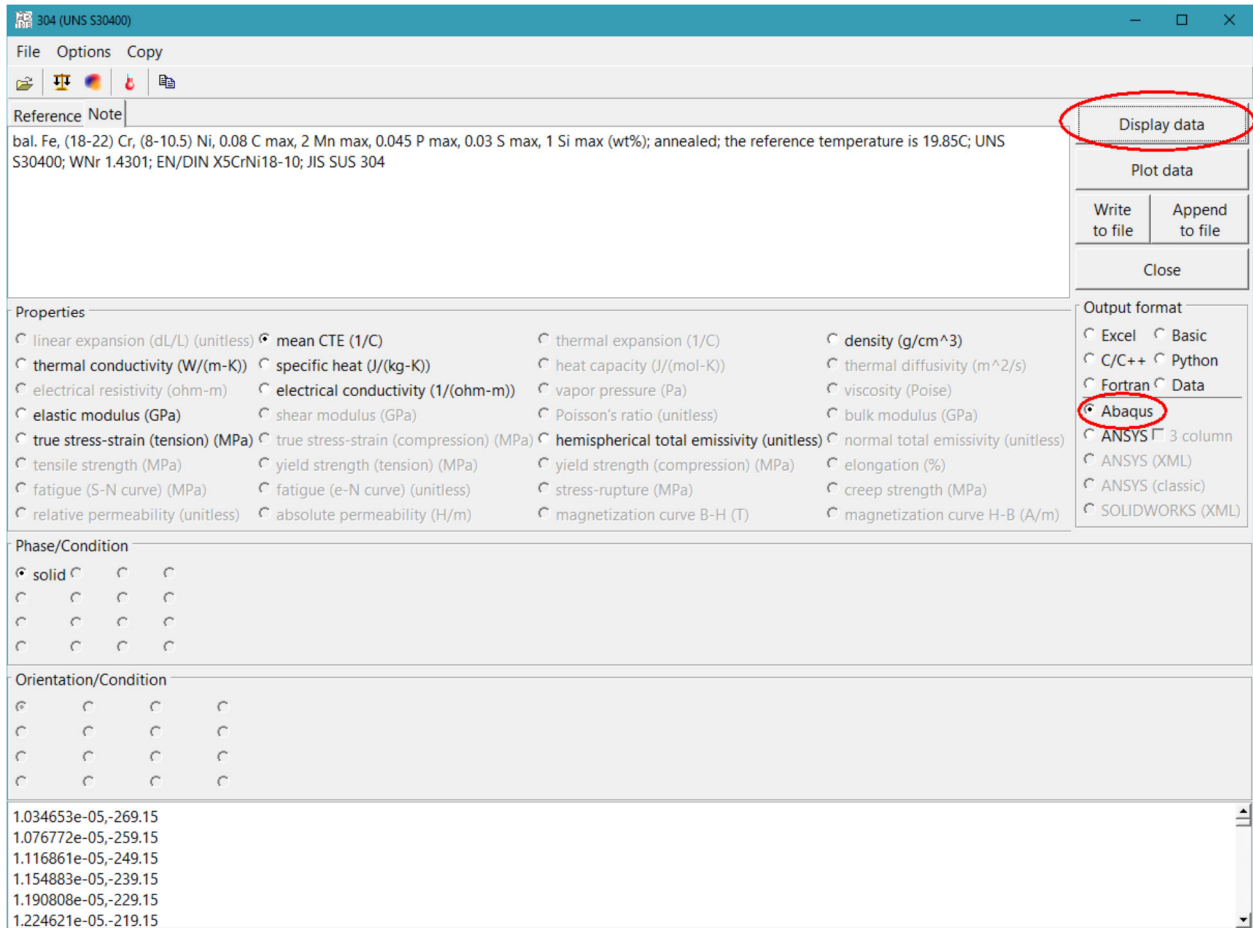

Figure 1.
- c) Select the material you want to add to the database in the normal way. Check “ABAQUS” for the output format and click the “Display data” button, Figure 1.